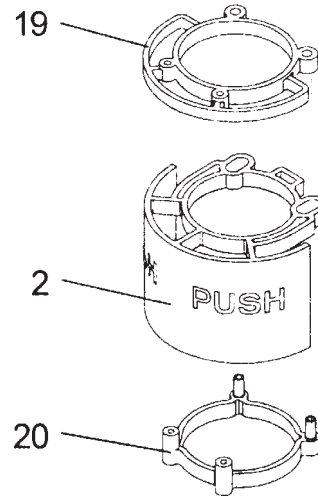
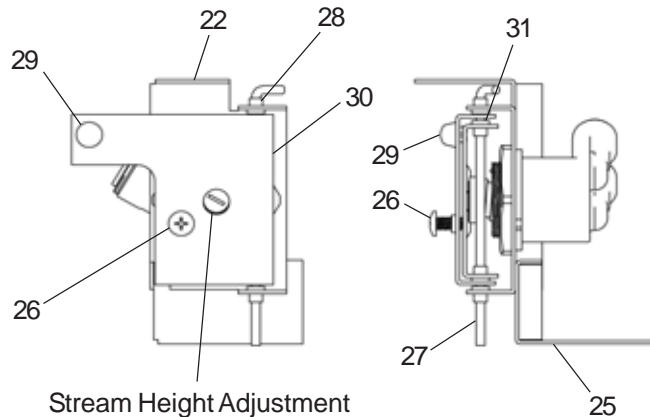

Figure 20 – Push Arm Mechanism
Figure 21 – Regulator Mounting Mechanism
10. **Check stream height from bubbler.** Stream height is factory set at 35-40 PSI. If supply pressure varies greatly from this, remove items 2, 19, and 20 (push arm and the bottom and the top actuator plates – Figure 20) by removing the screws holding assembly together and adjust the screw on the regulator (Item 14 – Figs. 21& 22). Clockwise adjustment will raise stream height and counterclockwise movement will lower stream height. For best adjustment, stream height should be approximately 1-1/2" (38mm) above the bubbler guard. (See Figure 16).
11. **Mount lower panel.** Loosen the two (2) #10-24 x 5/8" (16mm) screws at frame bottom lip. Slide upper tongue of lower panel under lower edge of already installed upper panel. Tighten previously loosened screws securely.